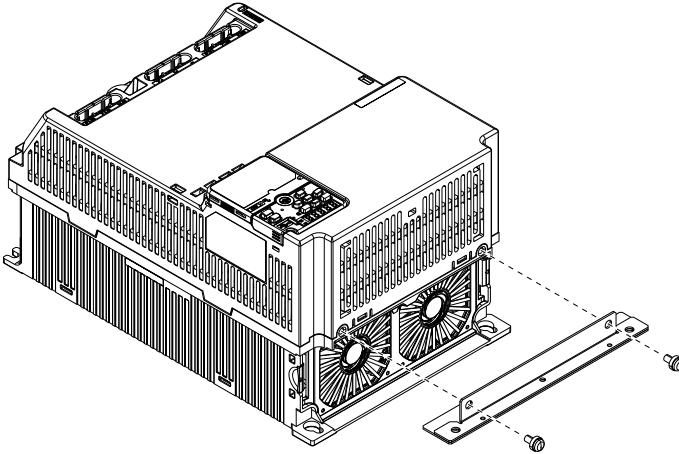

Figure 6.15 Install Bracket 1 (Top of the Drive)
1. Use the supplied screws to install bracket 1 to the top of the drive in the position shown in Figure 6.15.
2. Use the supplied screws to install bracket 2 to the bottom of the drive in the position shown in Figure 6.15.